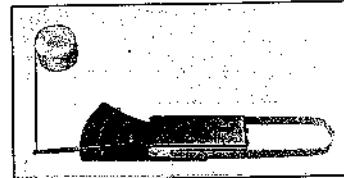

Fig. 13 Spring Scale and Cassette Reel Adapter
* The tools above (1 ~ 3) are constructed as shown in Fig. 13.